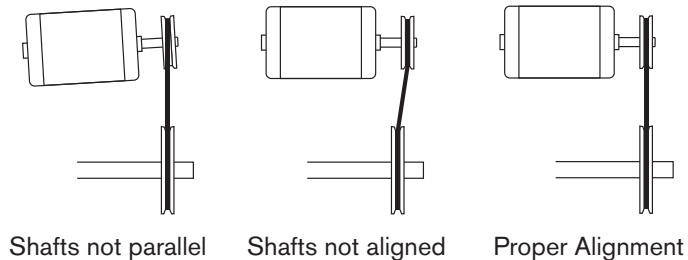

Figure 2
If the user is supplying the sheaves and/or belts, it is their responsibility to make the correct component selections for the specific operating conditions. Their selection must also **not allow** the blower to exceed its maximum safe speed or hub load. If you do not know the maximum safe speed or hub load for this blower, **do not** make any drive selection without first consulting Cincinnati Fan or the sales office for your area. Timing belts should never be used on blowers. If you are replacing belts and/or sheaves, checking belt tension or proper alignment, **Figure 2** and **Assembly Steps**. Sheave set screws or taper-lock bushing bolts should be tightened to the torque values as indicated in **Tables 1 and 2**.
The blower and motor shafts must be parallel and the sheaves must be in line with each other. See **Figure 2**.
6. Check the blower and motor shafts to make sure they are parallel and aligned as shown in **Figure 2**.